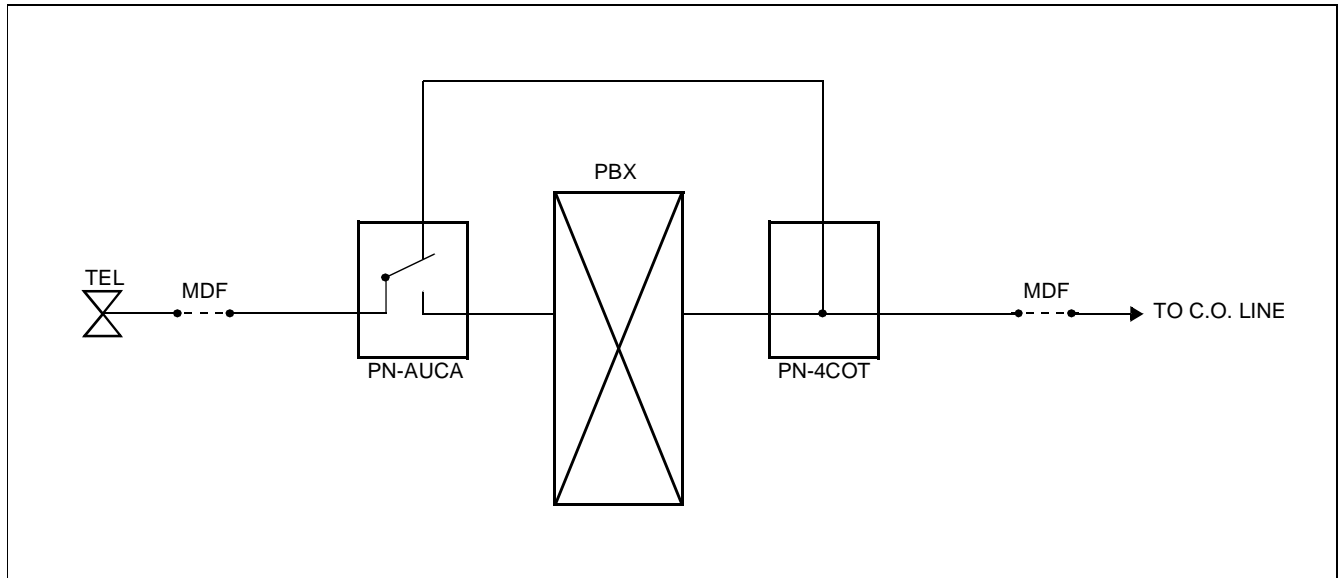

Figure 3-30 PFT Connection Outline (PN-AUCA)
(1) When using PN-AUCA card
- Figure 3-30 shows an outline of a PFT (PN-AUCA) connection.